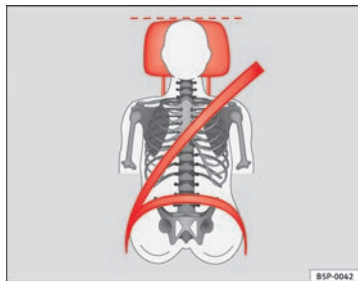

Fig. 12 Correct seat belt and head restraint positions, viewed from front
- The shoulder belt must be positioned around the middle of the shoulder. The seat belt must lie flat and snugly on the torso → fig. 12.